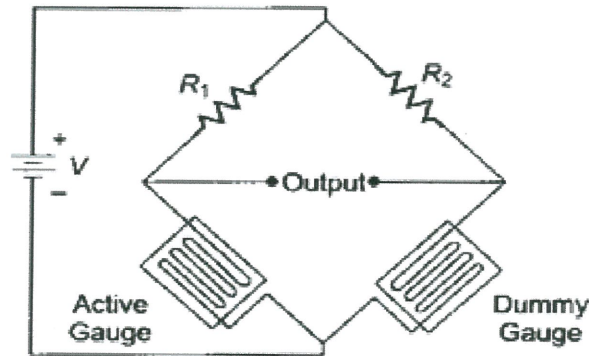

FIGURE Q2(c)
- (c) A strain gauge with $GF = 2.03$ and active gauge, $R_A=350\Omega$ is used in the bridge of **Figure Q2(c)**. The bridge resistors are $R_1=R_2=350\Omega$, and the dummy gauge has $R_D=350\Omega$. If a tensile strain of $1450\mu\text{m/m}$ is applied, find the bridge offset voltage if $V_s=10\text{V}$. (7 marks)